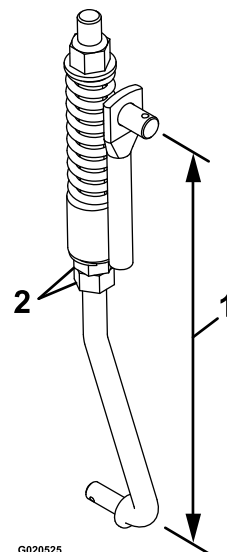

Figure 59
8. Adjust the linkage length with the 2 nuts at the bottom of the vertical spring assembly (Figure 59).